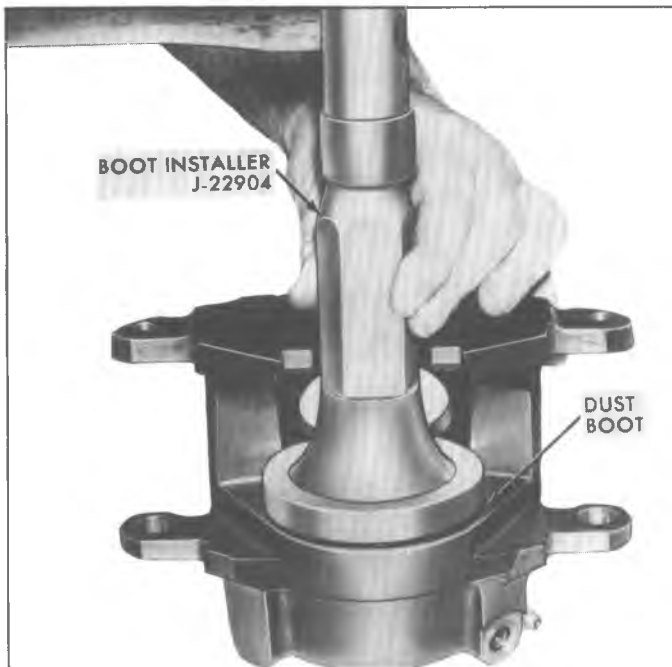

Fig. 62-Installing Boot to Caliper
4. Position the dust boot in the caliper counterbore and seat using Boot Installer Tool J-22904 as shown in Figure 62.